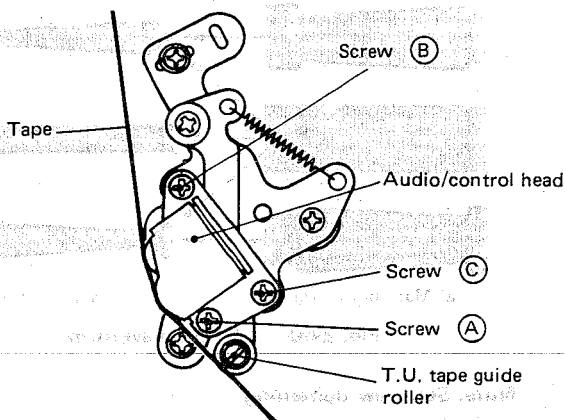

Fig. 2-52 A/C head height adjustment
3. Adjust screws (A) and (B) (shown in Fig. 2-52) for both maximum output levels and absence of phase difference between CH-1 and CH-2.